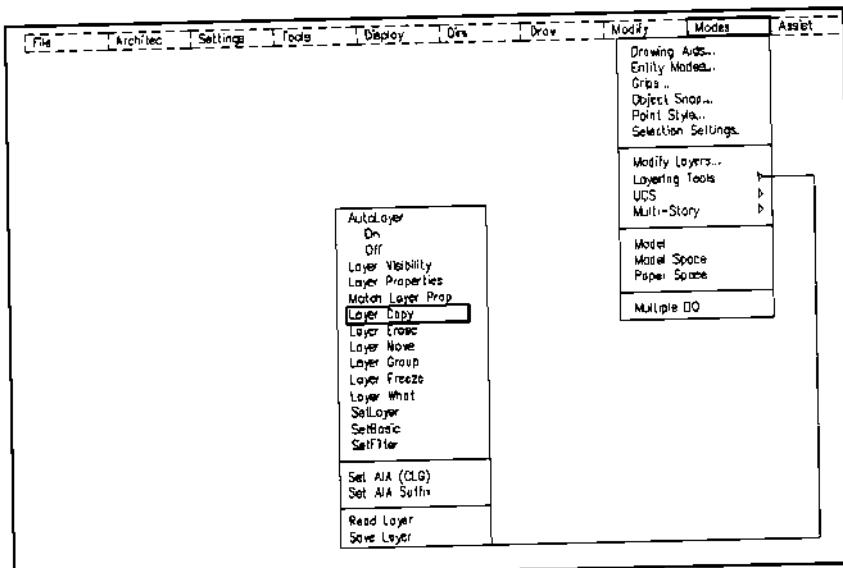

Figure 13.
1. Select the Layer Freeze command under Layering Tools in the Modes pull-down menu. The Layering Tools menu is shown in Figure 13.